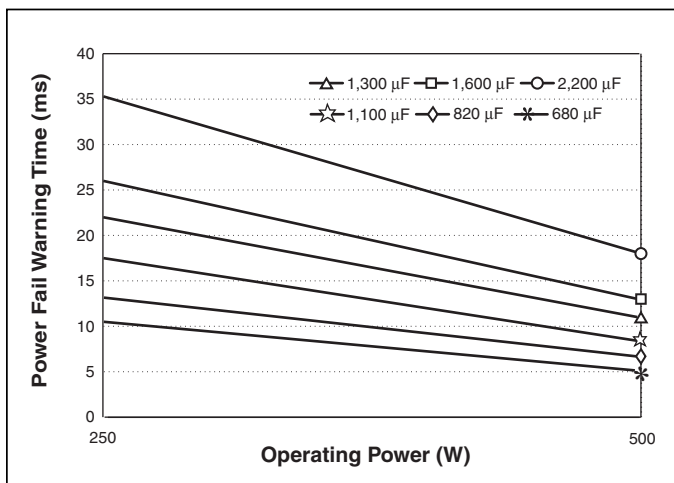

Figure 13 — Power fail warning time vs. operating power and total bus capacitance, series combination of  $C_1$ ,  $C_2$  (see Figure 1a)
Calculated values of bus capacitance for various hold-up time, ride-through time, and ripple voltage requirements are given as a function of operating power level in *Figures 13, 14, and 16*, respectively.
**Warning.** *Figure 13* is used to determine capacitance for a given power fail warning time and power level, and shows that the total bus capacitance should be at least 820  $\mu$ F. Since two capacitors are used in series, each capacitor should be at least 1,640  $\mu$ F. Note that warning time is not dependent on line voltage. A hold-up capacitor calculator is available on the Vicor website, at [vicorpower.com/hubcalc](http://vicorpower.com/hubcalc).